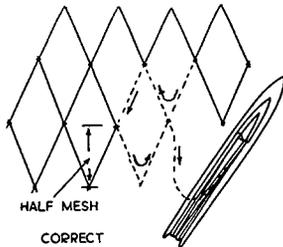
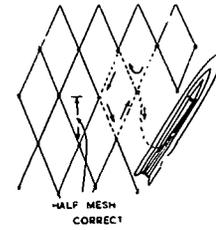

Fig. 34
Fig. 35
4. With one exception, after making a side knot the next knot will be a half mesh knot (Fig. 34), a pick up knot followed by a half mesh knot, (Fig. 35) or a finishing knot.